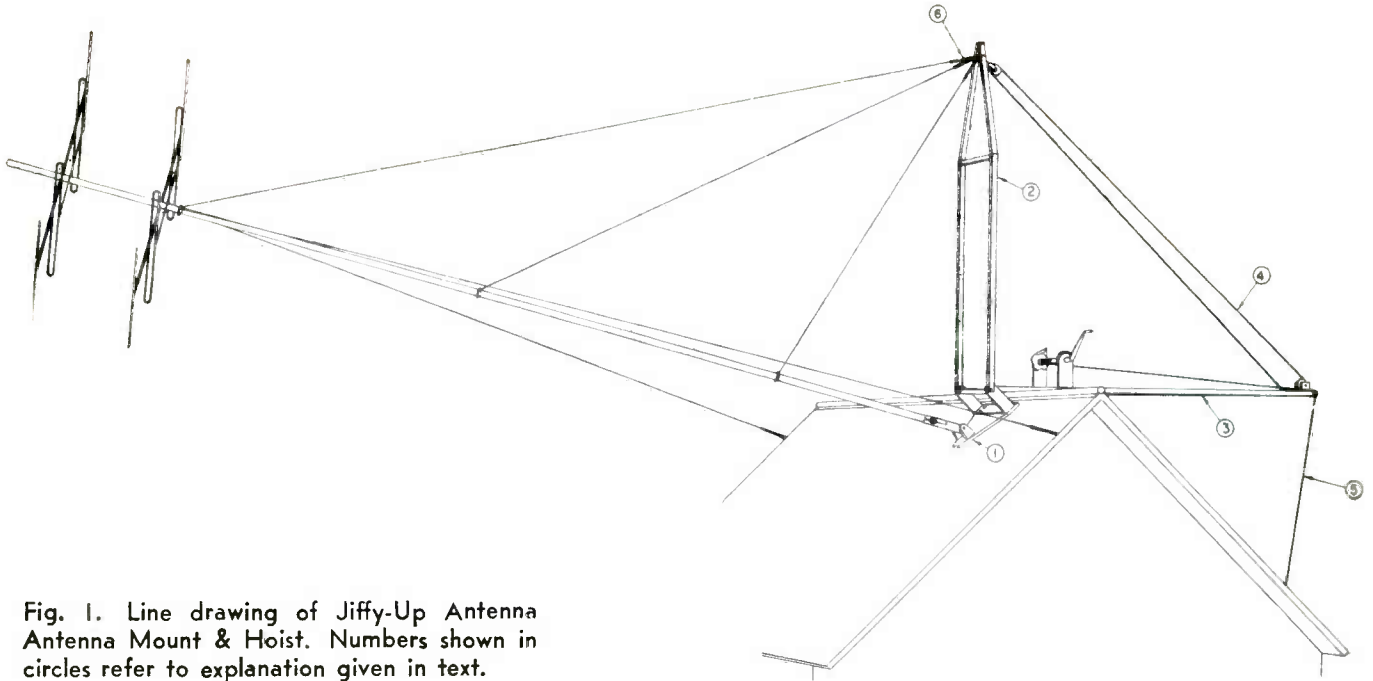

Fig. 1. Line drawing of Jiffy-Up Antenna Mount & Hoist. Numbers shown in circles refer to explanation given in text.
Figure 1 shows a line drawing with the details numbered to aid the reader in following the mounting and hoisting operations. First (1) the roof mount (Fig. 2) is mounted to the roof using lag screws. This unit is mounted as close to the ridge of the gable as possible.